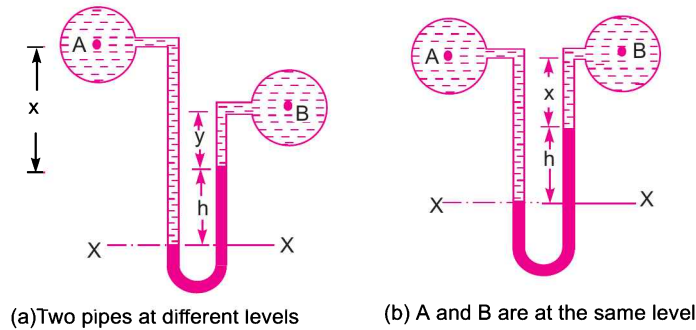

Fig. 2.18 U-tube differential manometers.
**2.7.1 U-tube Differential Manometer.** Fig. 2.18 shows the differential manometers of U-tube type.
In Fig. 2.18 (a), the two points A and B are at different level and also contains liquids of different sp. gr. These points are connected to the U-tube differential manometer. Let the pressure at A and B are  $p_A$  and  $p_B$ .
In Fig. 2.18 (b), the two points A and B are at the same level and contains the same liquid of density  $\rho_1$ . Then